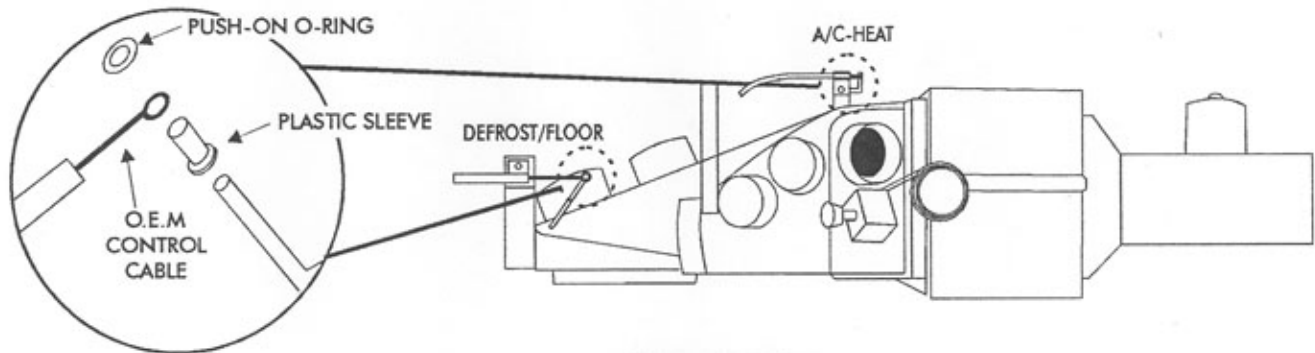

FIGURE 5
- 1. ATTACH THE O.E.M CONTROL CABLES USING THE PLASTIC SLEEVES AND PUSH-ON O-RING (SUPPLIED)AS SEEN IN **FIGURE 5** BELOW.